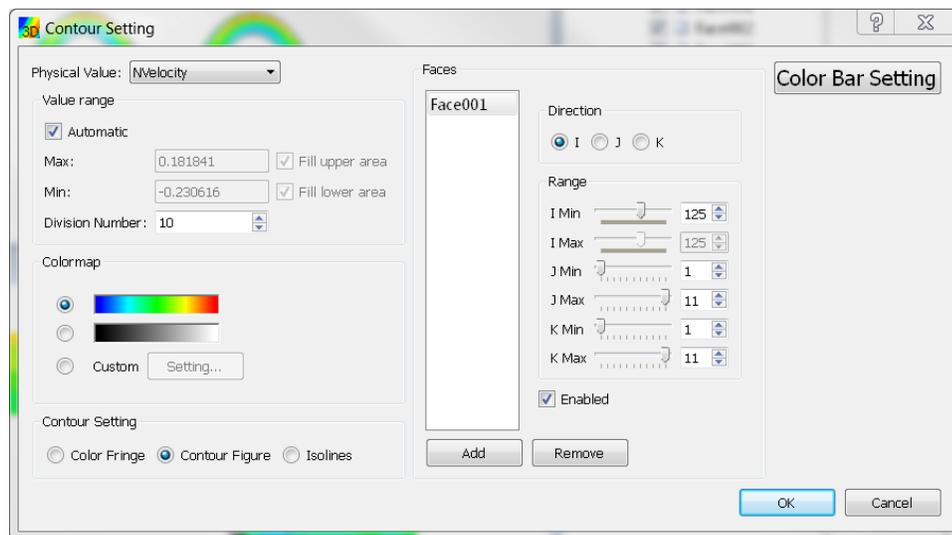

Figure 4. Contour settings for Panel 3.
- Right-click the *iRICZone / Contour* branch of the Object Browser, select the Property pop-up menu and in the Contour Setting dialog create 8 faces oriented in the I Direction. Each I face is set at multiples of 25 (1,25,50,100...) as shown in Figure 4 below.
- Panel 3: A 3D Post-processing window is shown with 1 cross-section of NVelocity and Vectors. Following the process in step-2 above for adding cross-sections to the 3D view we'll build a single cross-section as shown in Figure 4. Next add vectors to the cross-section as shown in Figure 5. See if you can arrange the cross-section so that you are viewing head-on from downstream (See Figure 6).